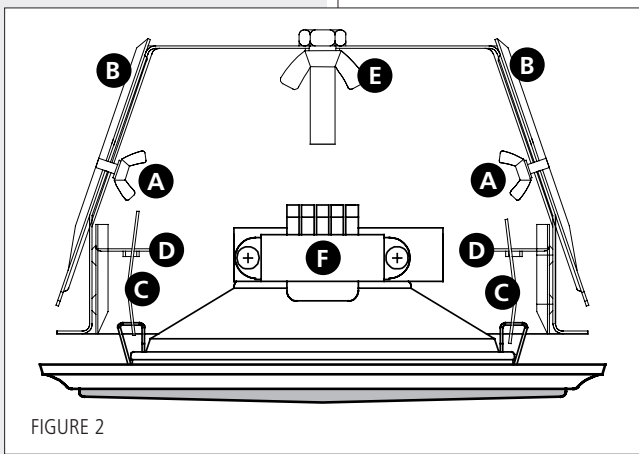

FIGURE 2
2. Loosen the two wing bolts **A** (figure 2) that secure the two attachment plates **B** and move the plates upwards, then secure the two plates **B** by retightening the two wing bolts **A**.
NOTE: TO FACILITATE CONNECTIONS, ESPECIALLY WHEN USING PARTICULARLY RIGID FIRE PROTECTION CABLES, THE CERAMIC TERMINALS CAN BE REMOVED FROM THE BASE BY UNSCREWING THE WING BOLT E (FIGURE 2) THAT SECURES THE TERMINAL SUPPORT.
The line transformer **F** (figure 2) of the loudspeaker is connected to the terminal strip on the base through the two conductors with FASTON connectors.